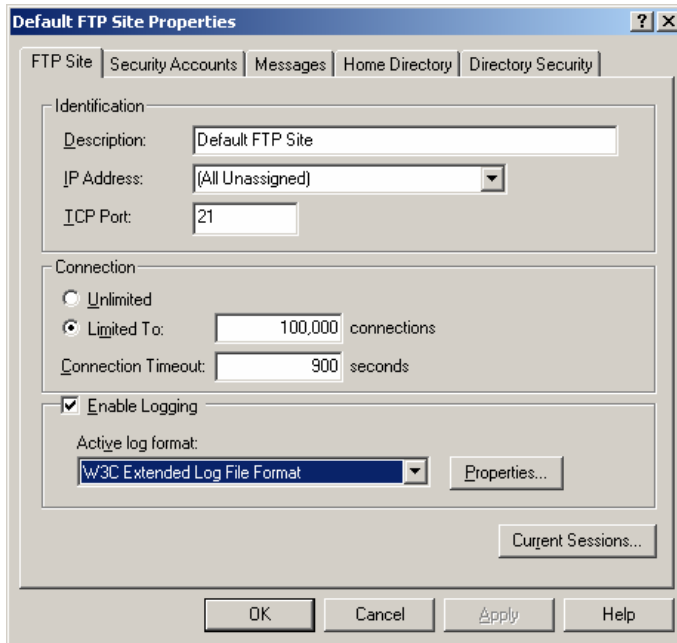

Figure 2-64 [Default FTP Site Properties] dialog box
- 2) Right-click [Default FTP Site]. Select [Properties] from the shortcut menu. See Figure 2-64.